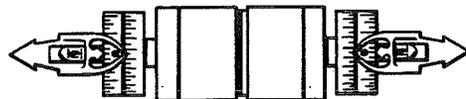

FIG.1
1. Join gages back to back (see fig. 1)
1. Place gage against a known plumb reference point, such as a 1/4" thick plate of steel clamped in a vise and leveled vertically (see fig. 1). Be sure surface of steel plate and magnet are clean.